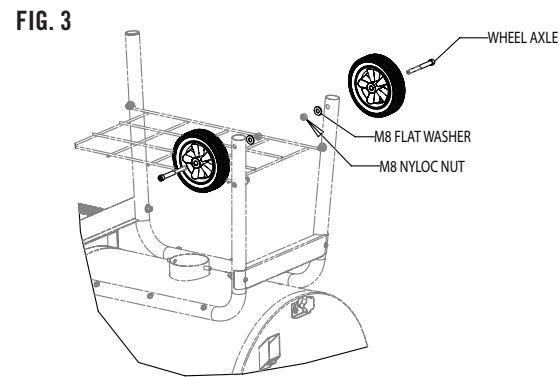

FIG. 3
4. Assemble Qty (2) Wheels to the legs as shown in Fig 3 using Qty (2) Wheel Axles, Qty (2) M8 Flat Washers, and Qty (2) M8 Nyloc Nuts. Tighten axle hardware with a wrench.